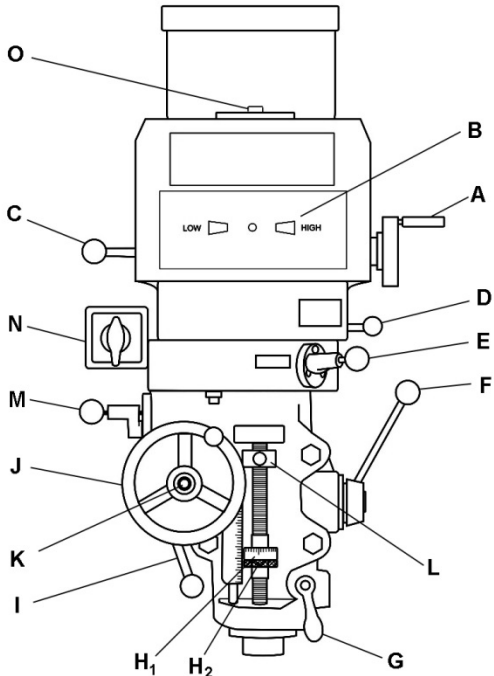
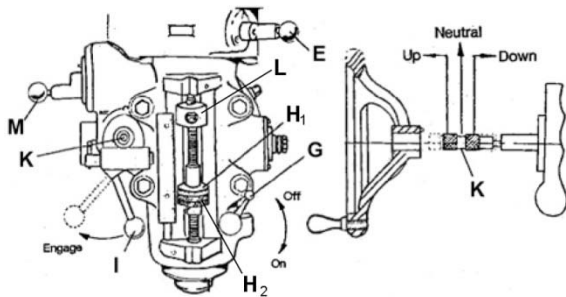

Figure 5: Controls
Figure 8: Manual feed controls
2. Apply upward pressure on motor by hand to relieve pressure on worm mechanism, and use supplied wrench to turn worm nut (B, Figure 8) and raise head to upright position.
Refer to Figure 5.
- A. **Variable speed control** (A, Figure 5) – located on right side of head assembly. Turn clockwise or counterclockwise to adjust spindle speed.
- F. **Coarse feed handle** (F) - located on right side of head. Used for non-precision drilling operations and for moving quill to a specific depth. Rotate clockwise to lower spindle. A return spring will retract spindle automatically once handle is released.
- G. **Quill lock** (G) - located on right side of head. Rotate handle clockwise to lock quill in desired position. Rotate handle counterclockwise to release.
- I. **Feed trip control lever** (I) - located on left side of head. Engages overload clutch on pinion shaft when lever is positioned to the left. Stays engaged until quill stop comes into contact with micrometer adjusting nut (forcing feed control lever to drop out automatically), or until lever is released manually by positioning lever to the right.
- J. **Manual feed handwheel** (J) – located on left front of head. Feed direction control knob (K) must be in neutral position. The feed control lever (I) must be engaged. **Note:** Manual feed handwheel may be taken off when not in use.
- K. **Feed direction control** (K) – located in center of manual feed handwheel. Position of knob depends upon direction of spindle rotation. If boring with right hand cutting tools, pull feed knob towards operator until
clutch becomes engaged. Neutral position is between forward and reverse position. (Refer to Figure 8 and accompanying text for further detail.) If control does not engage easily, move handwheel (J) back and forth to aid engagement.
To change from high to low speed range, push in lever (D, Figure 5) and rotate it almost 180 degrees. Lever will stay in position once pressure is released.
Refer to Figure 8.
1. Disengage automatic feed by pulling out knob (E, Figure 8) and moving lever to the right hole.
2. Position feed reversing knob (K) to the center, or neutral, position.
3. Engage feed trip lever (I) by pulling away from the head assembly.
4. The quill can now be moved up or down by turning handwheel (J, Figure 5).
3. Disengage feed trip lever (I) by pushing towards head assembly.
4. Use coarse feed handle (F, Figure 5) to move the spindle.
Refer to Figures 5 and 8.
2. Tighten quill lock (G, Figure 8).
3. Screw the micrometer nut (H_1) against quill stop (L), and tighten micrometer jam nut (H_2).
4. Loosen quill lock (G).
1. Ensure quill lock (G, Figure 8) is loosened by rotating counterclockwise.
2. Set micrometer nut (H) to desired depth.
3. Engage auto feed lever by pulling out lock knob (E) and moving lever to the left hole.
4. Select feed direction by setting feed direction knob (K) position per Table 2.
5. Select feed rate from feed selector knob (M) 0.0015", 0.003", and 0.006" per spindle revolution. It is easier to change feed rate while the spindle is turning.
6. Engage feed trip lever (I, Figure 8) by pulling away from head assembly.
3. Screw micrometer nut (H₁) against quill stop (L), and tighten micrometer jam nut (H₂).
4. Loosen quill lock (G), and engage auto feed lever (E).
5. Choose downfeed rate (M).